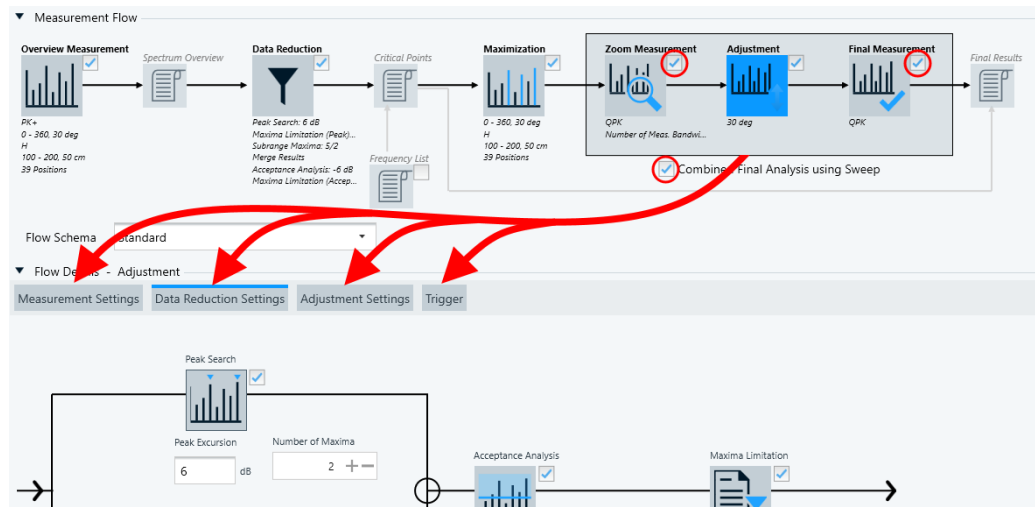

Figure 4-64: The icon for Combined Final Analysis using Sweep gives access to various settings in the Flow Details
- Both the Zoom Measurement and the Final Measurement are enabled, as indicated by the red circles in Figure 4-64